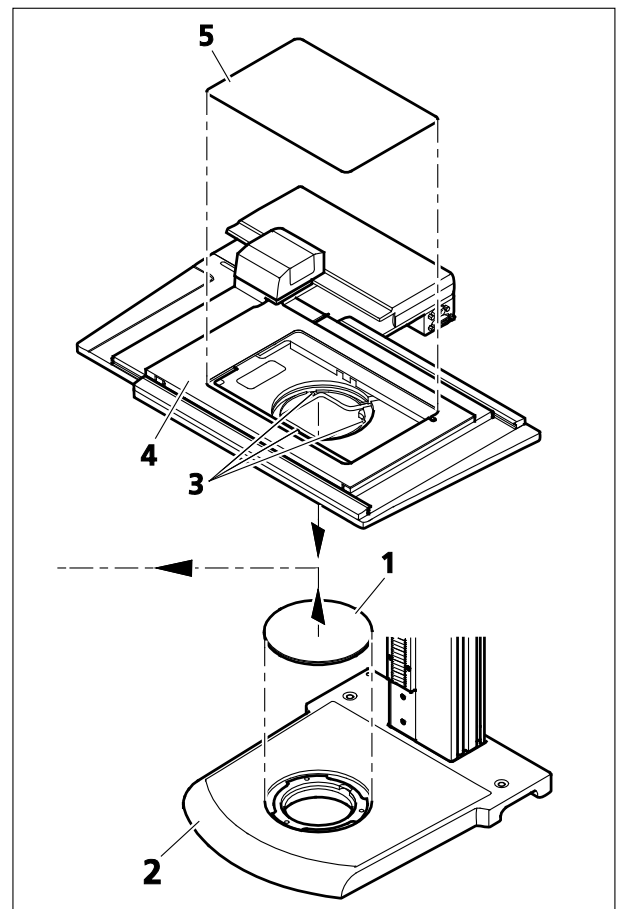

Fig. 3 Mounting the mechanical / measuring stage mot. on base 300
- If necessary, remove the metal plate (Fig. 3/1) from base 300 (Fig. 3/2) by pressing and tilting the rear edge.
- Set the mechanical / measuring stage (Fig. 3/4) on the base 300 (stage drive pointing to the left), align it to base 300 secure with the three captive screws (Fig. 3/3) of the stage.
- Insert the metal plate (Fig. 3/5) into the stage.
The red dots on the stage (Fig. 3/4) and metal plate (Fig. 3/5) are to ensure reproducibility of the alignment of the metal plate and stage if the former needs to be detached.